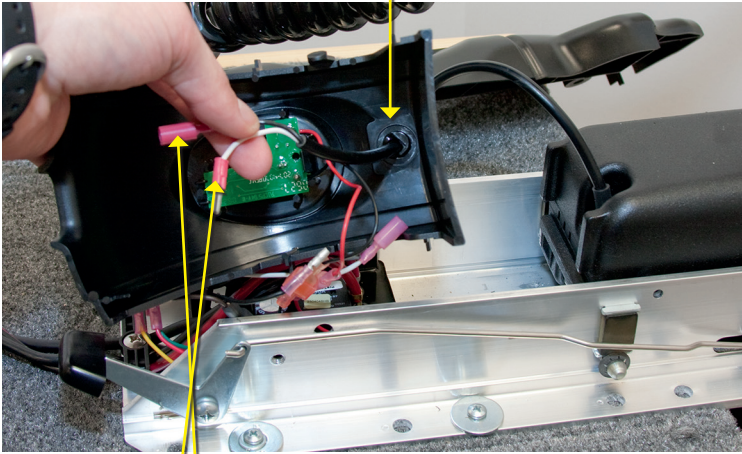

FIGURE 28
15. The steering motor cable passes through the top of the center housing removed in step 14. This cable contains a black and white wire. Disconnect these two wires by pulling each connector apart. (Figure 28) Riptide SP motors will have these connections covered with heat shrink which must be removed with a utility knife.